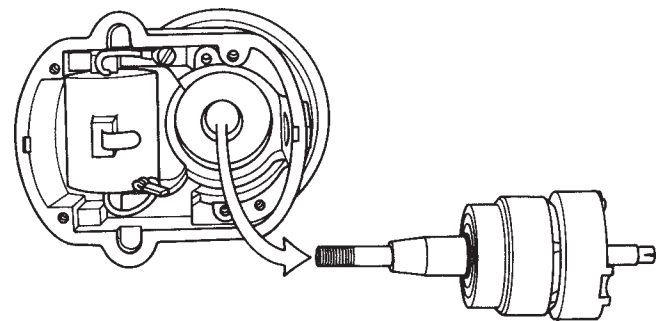

Figure 6.8
- B. Press against the drive end of the rotor shaft and withdraw the rotor and bearing cap assembly from the drive frame. (See Figure 6.8.)